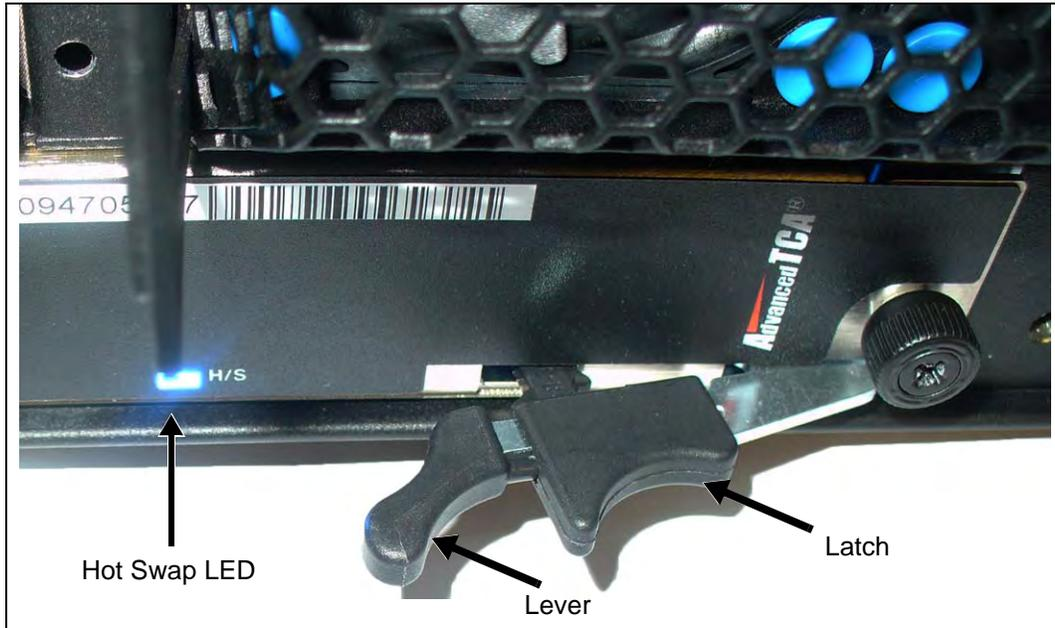

Figure 5.15 - IAP100 Right Ejector Handle - Hot Swap Position
1.	Pinch the latch and lever on the right ejector handle and pull the handle outward slightly as shown (Figure 5.15).